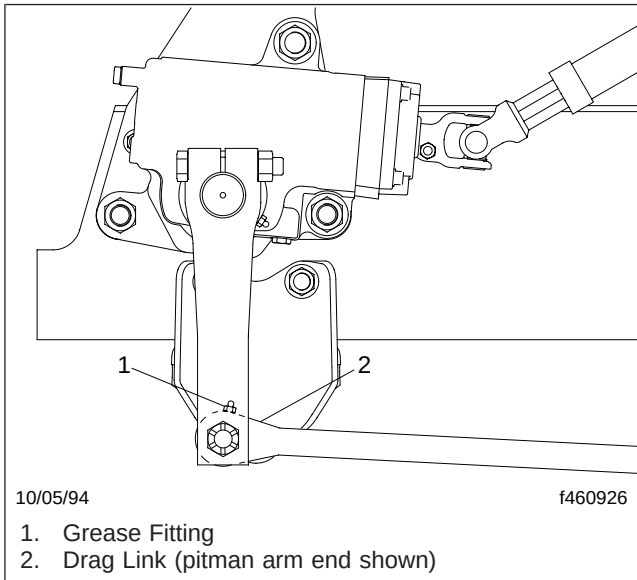

Fig. 2, Steering Drag Link Lubricating
- Using a clean rag, wipe the dirt from both grease fittings on the drag link. See Fig. 2.